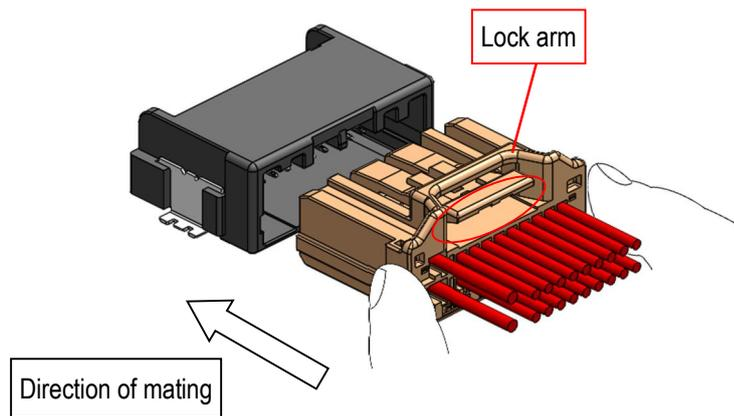

Fig 40. Direction of mating
- ① Push the female connector that has been installed the retainer in the direction of mating until makes an audible click (see Fig. 40). While mating the female connector, please do not touch the lock arm to prevent insufficient mating.
- ② After that, pull the female connector lightly to check that the female connector is locked.